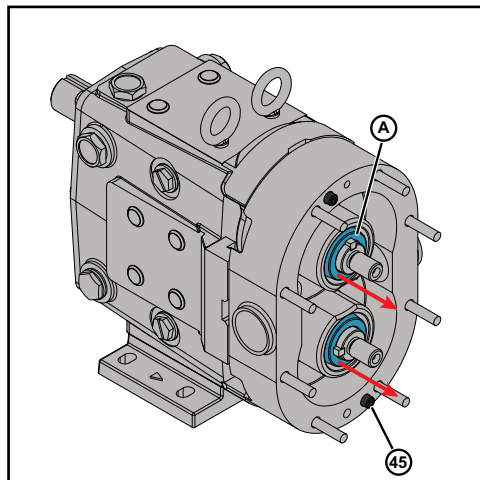

Figure 91 - Install Cap screw
4. Secure the pump body to the gear case using two cap screws (45).
5. Remove both the installation guide (A) from the pump body, as shown in Figure 91.